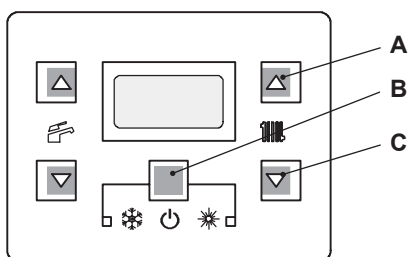

Figure 9.5
- 1 To enter in the parameters setting mode press sequentially the 3 keys B - C - A (Figure 9.5) and hold in for 10 second until the display shows Figure 9.6.
To reset the boiler to the normal operation press contemporary the 3 keys (A - B - C Figure 9.5) for 10 second.